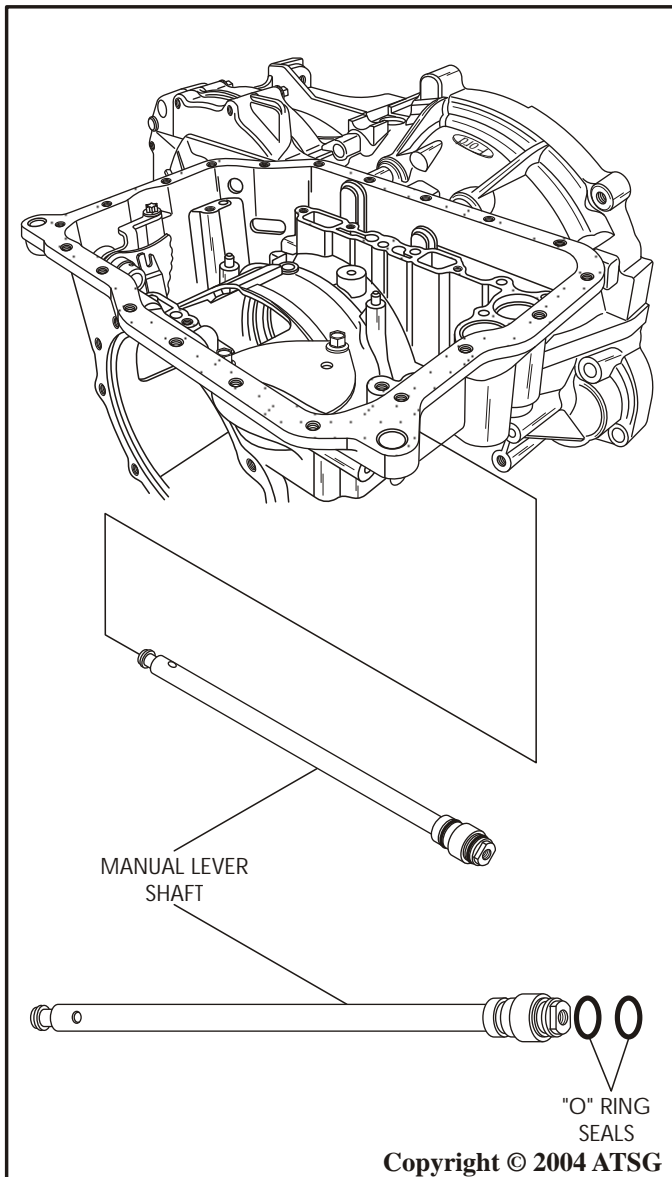

Figure 43
39. Remove the manual lever shaft from transaxle case, as shown in Figure 43.
40. Remove and discard the two manual lever shaft "O" ring seals, as shown in Figure 43.